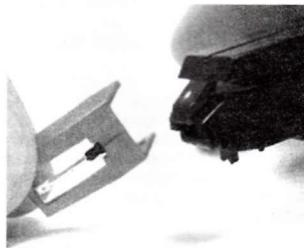

FIG 4a
- Carefully remove the entire Stylus Assembly from the Cartridge by pulling the Stylus Assembly away from the CARTRIDGE (14) (fig 4a).